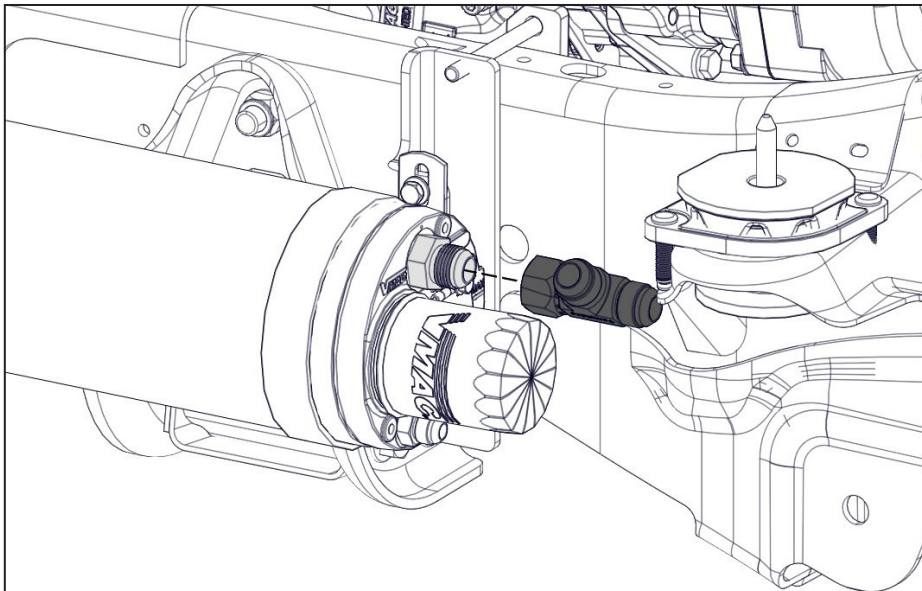

Figure 53 — Install fittings
- ☐ Install the supplied fitting onto the AOST (Figure 53).